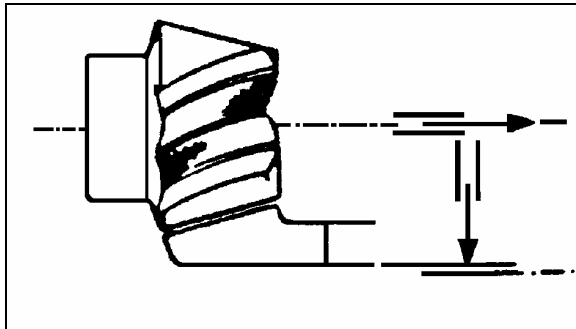
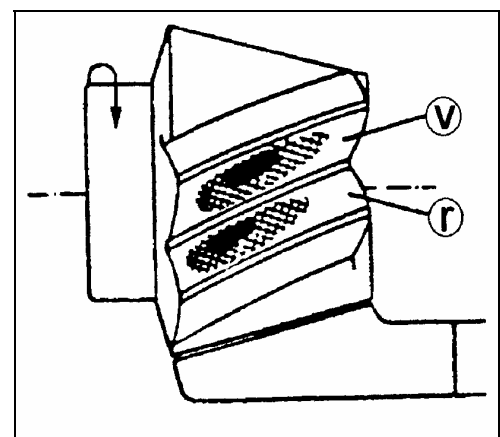

Fig. 7
Fig. 9
- Remove flange (No.5), take out differential cage (No.11) with crown gear and assess contact pattern. With proper adjusting washer thickness a contact pattern as per Fig. 9 should be achieved (see section 2.2.1.2).
If there is a contact pattern as in Fig. 7 or 8 showed, aim for contact pattern as per Fig. 9. This is with displacing of the pinion through change of thickness for the adjusting washer to do. By turning the nuts (3) and (17) is the crown gear position similar to Fig. 7 or 8 either to displacing.